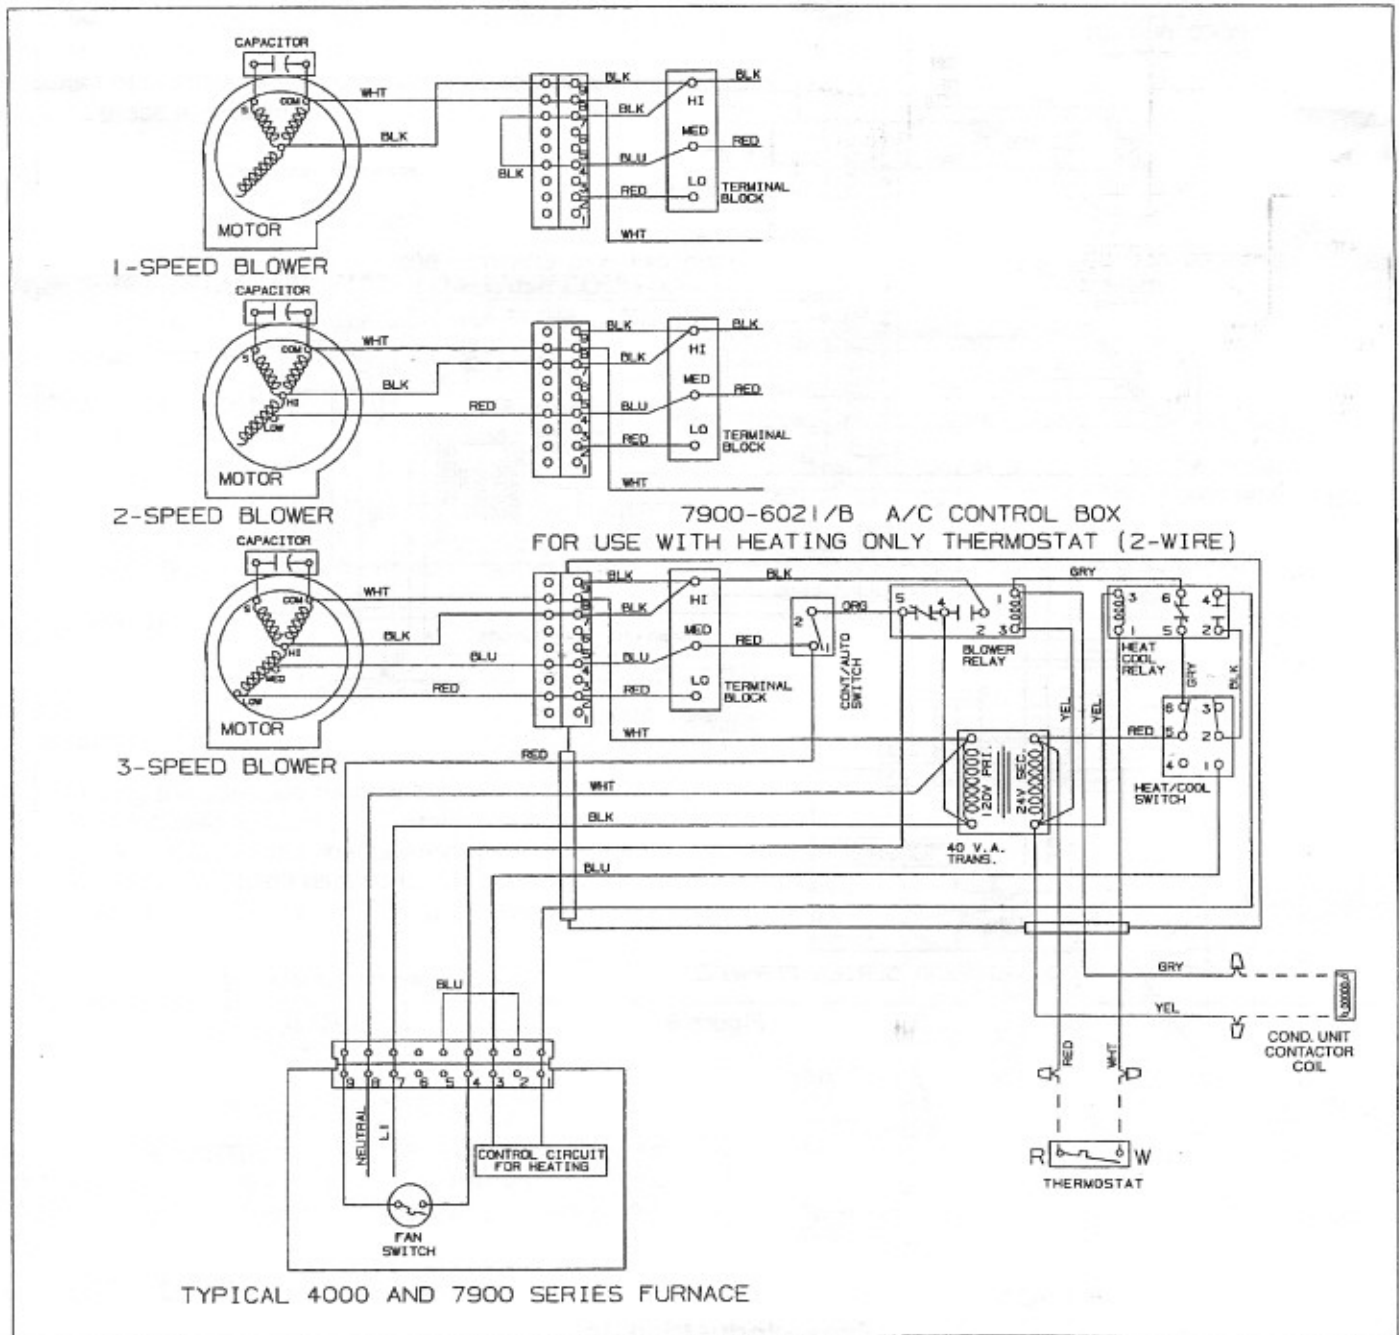

Figure 5
- Figure 5 for thermostat wiring for the 7900-6021/B (2 wire) control box that uses existing heating thermostat.